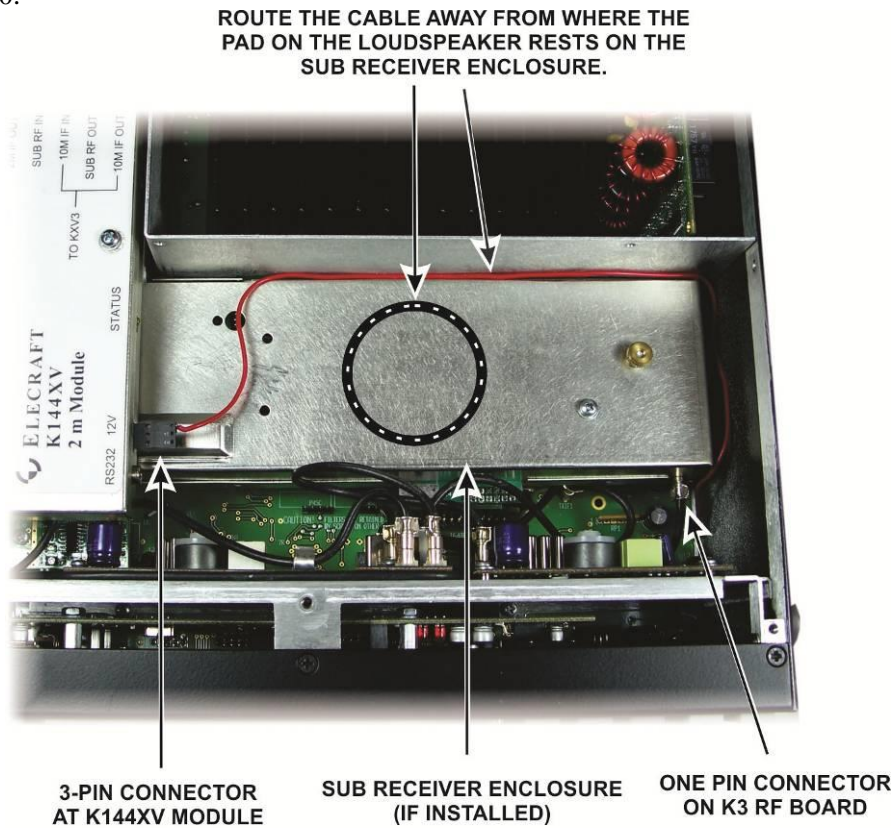
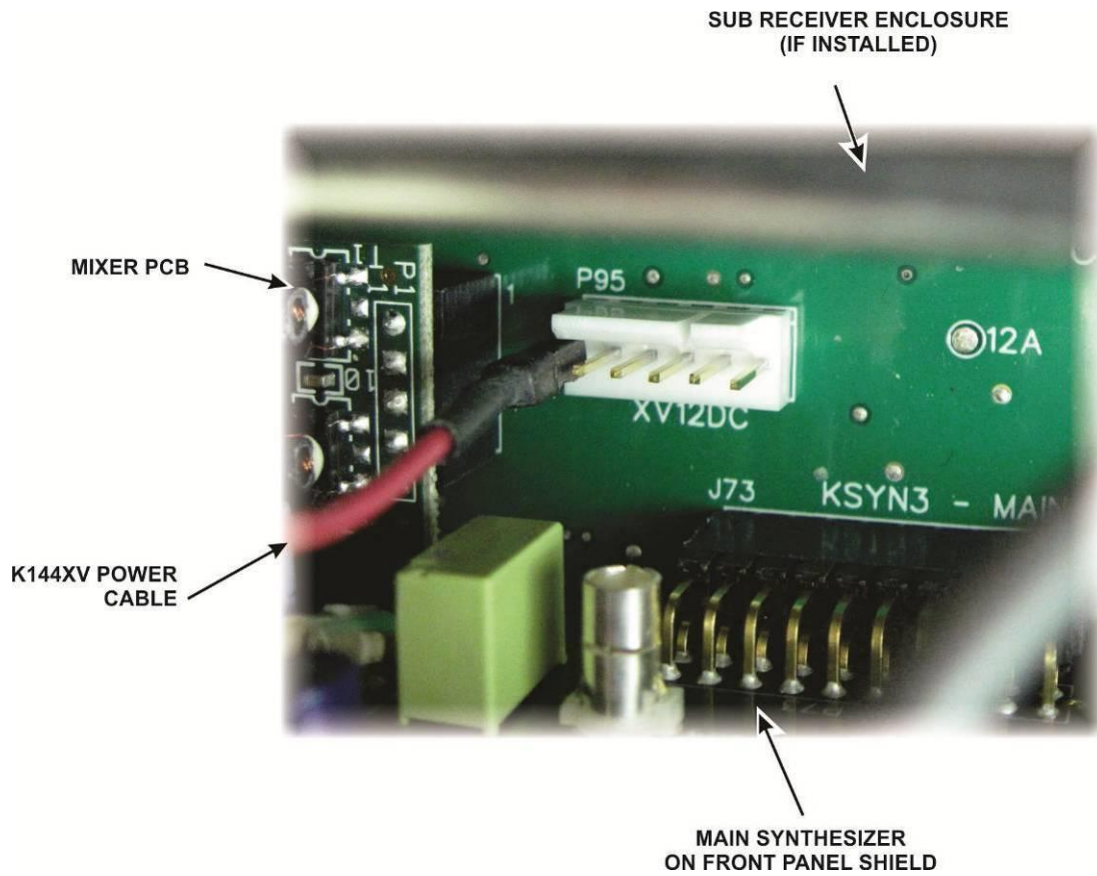

Figure 9. Installing K144XV Power Cable in K3 Transceiver.
Figure 10. Attaching the Power Cable in a K3S Transceiver.
□ If you are installing the K144XV in a K3, connect the 14" (36 cm) power cable between the 3-pin connector on the K144XV module and the 1-pin connector as shown in Figure 9. If you are installing the K144XV in a K3S, use the 5" (13 cm) power cable instead and connect it to P95 near the main synthesizer as shown in Figure 10.